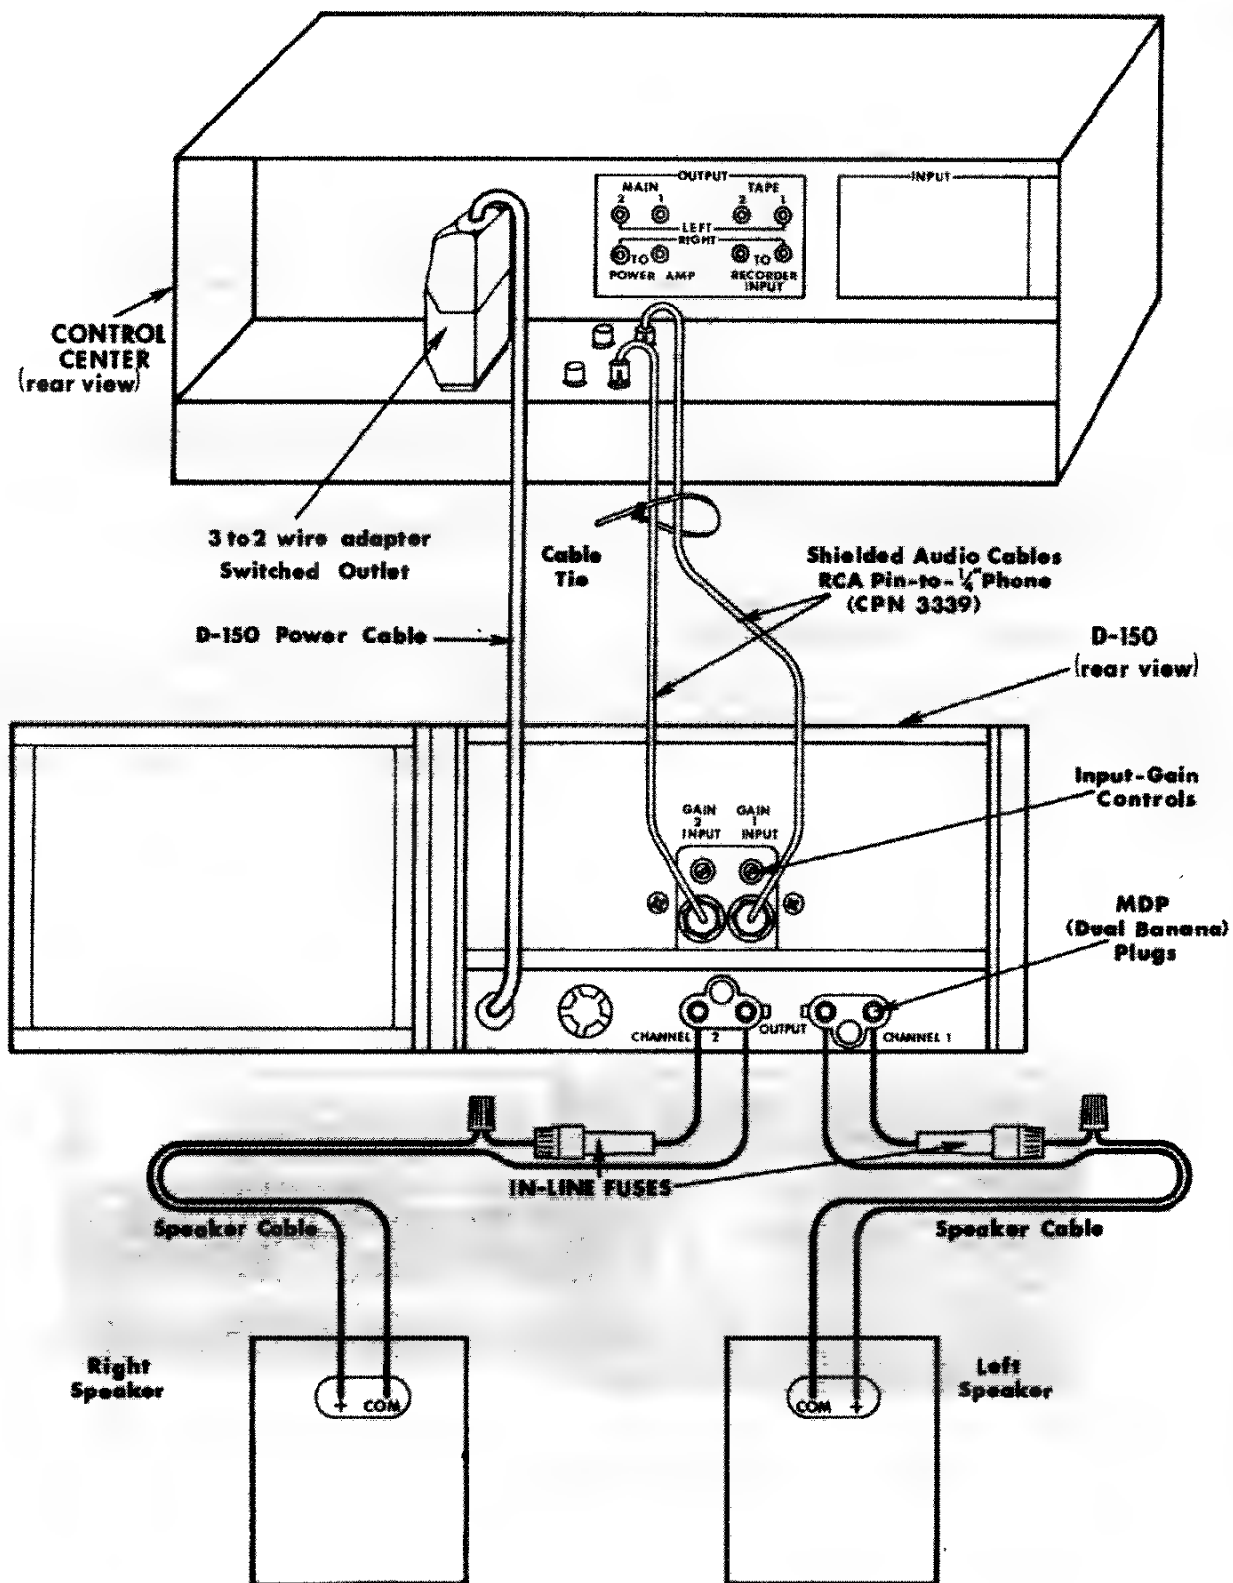

FIGURE 3-16.
1. Two-conductor speaker cables must connect to the OUTPUT dual binding posts using terminal lugs, tinned ends, or the special "banana" plugs supplied with the D-150. Connect the in-line fuses as recommended in the Accessory Bag and Figure 3-16.